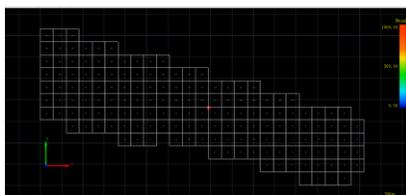

Figure 3-126 Split Vector Generation
3. Click <OK> when the settings are complete, the software will generate the vector file after the splitting and load it to the vector layer in the workspace and the view selected by the user in the splitting parameters (Figure 3-126).
2. After clicking on the 16th split block, the view will only show the point cloud in the block (Figure 3-126), and at the same time, the software will automatically extract the part of the point cloud and generate a point cloud file to be loaded into the workspace, so that the user can operate on the part of the point cloud.